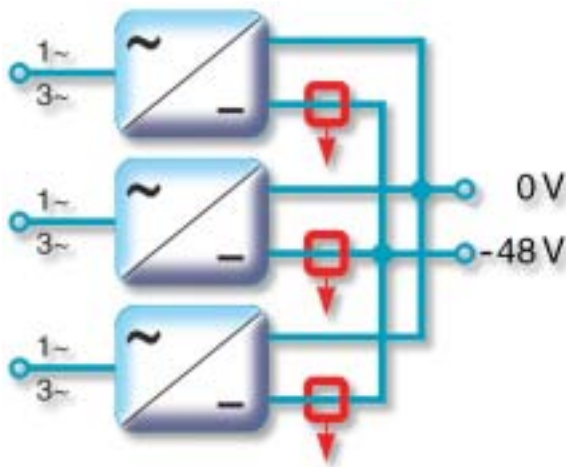

Fig. 9: Current measurement in SMPS, connected in parallel.
1.1 Several **SMPS (Switch Mode Power Supply)** connected in parallel measure lower currents from 30A to 60A. This current measurement is for control and for power sharing between the SMPS... (Fig. 9, single (1~) or three (3~) phase supply)